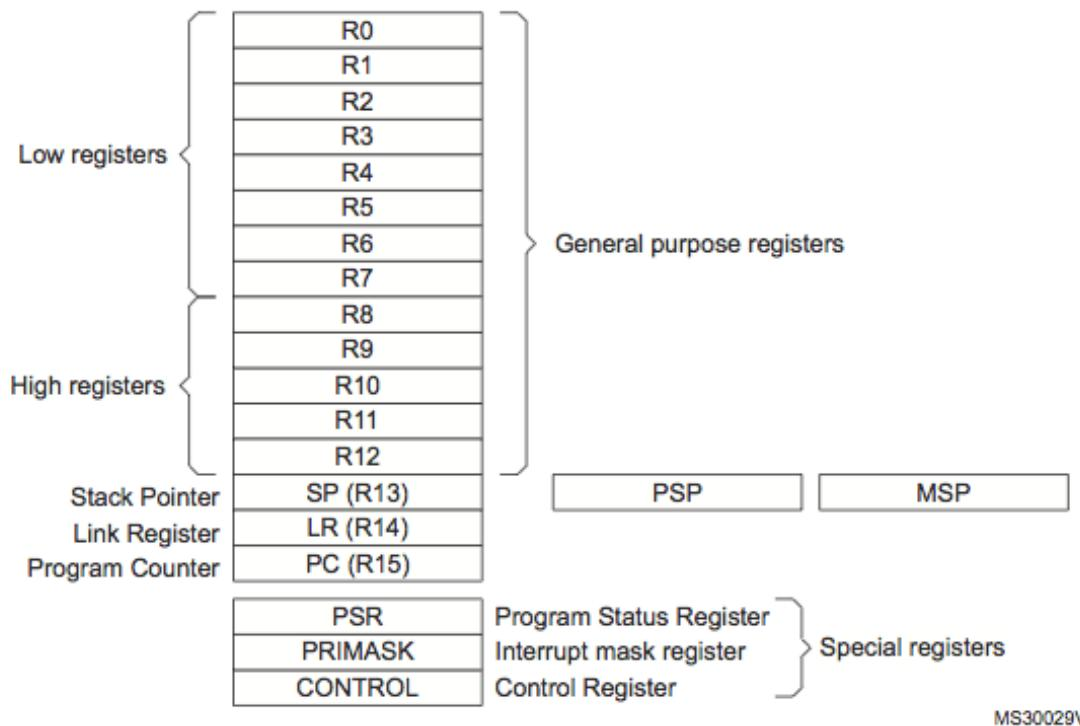

Figure 3.1: Process core registers.
The link register (LR), register r14, stores return information for subroutines, function calls, and exceptions. Register r15 is used as program counter containing the current instruction address. Figure 3.1 shows the core registers used in the processor.